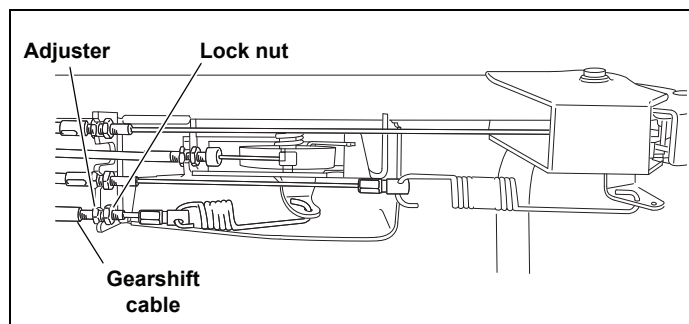

Fig. 5-12
1. If adjustment is necessary, adjust by turning the adjuster and loosening the lock nut on the gearshift cable. Fig. 5-12
2. Set the adjuster to the optimal position and tighten the lock nut. Fig. 5-12